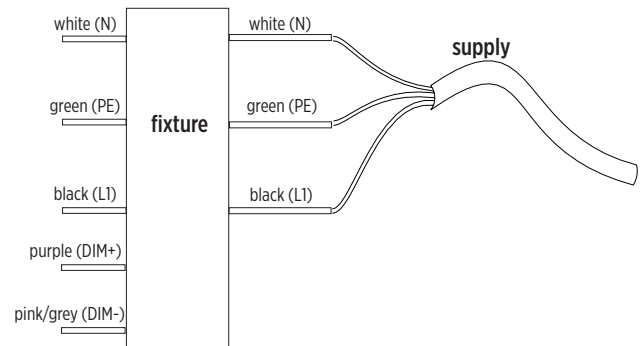

Figure 4
1. Remove threaded plug from center fitting on bottom of fixture. See Figure 4.